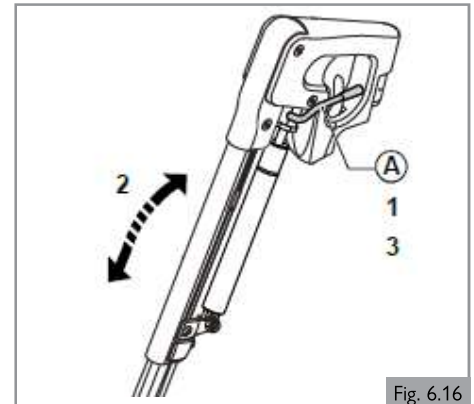

Fig. 6.16
6.7 Swing away legrests (Option)**Manually elevating leg rest knee angle (Fig 6.16)**